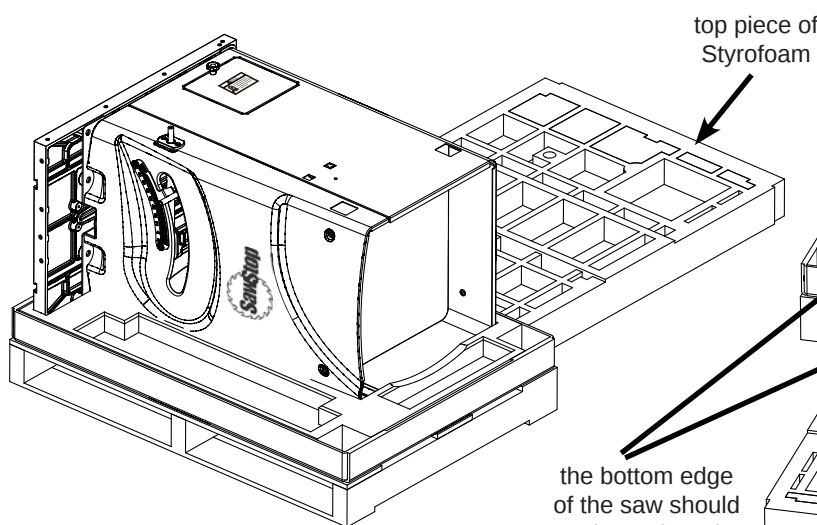
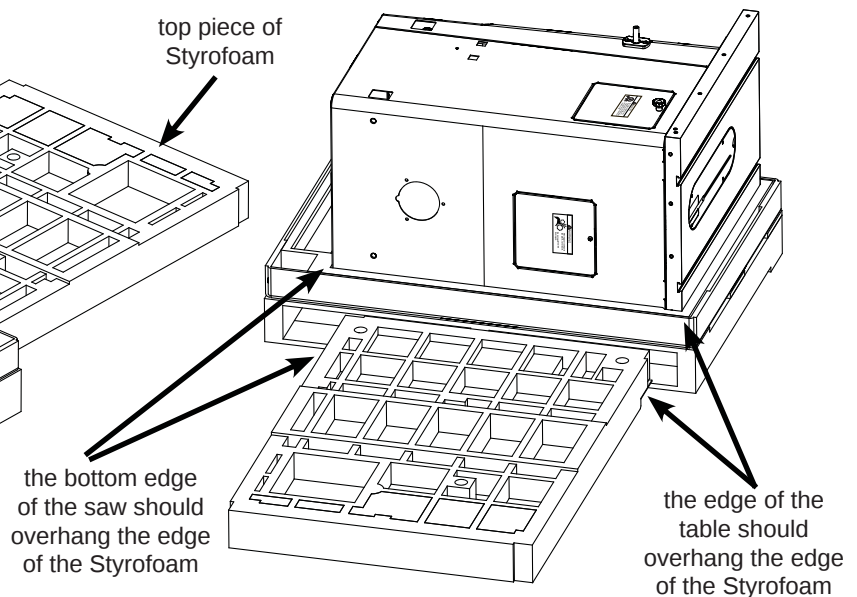

Fig. 2a
Fig. 2b
2. Take the top piece of Styrofoam and place one of its short sides next to the pallet by the back of the saw, as shown in Fig 2a. Place the Styrofoam so that the top edge of the table and the bottom edge of the saw both overhang the edges of the the Styrofoam (see Fig. 2b).